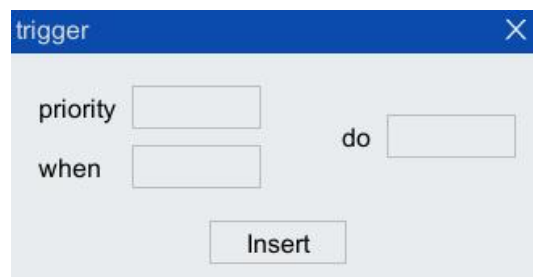

Figure 5-41 "Trigger" Instruction configuration interface
Step1. Click "Insert Cmd> Interrupt Trigger> trigger" option in the toolbar of the program editor to pop up "trigger" instruction interface as shown in Figure 5-41.